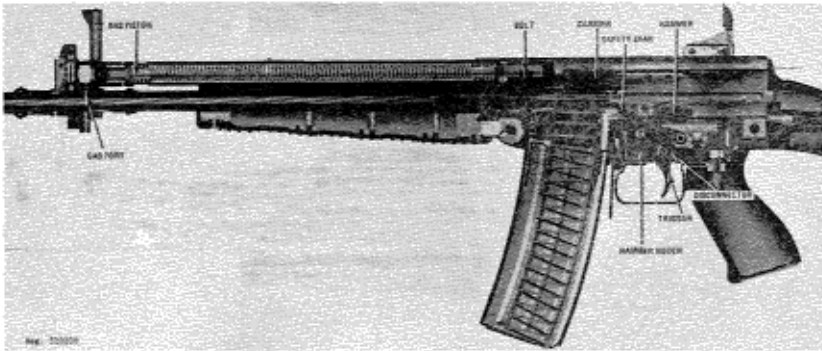

Figure 101. Beretta M70/.223 section.
a. The Beretta M70/.223 is gas operated. When the rifle is loaded and cocked, pressure on the trigger releases the hammer which, under pressure of its spring, swings forward, strikes the firing pin, and fires the chambered cartridge. As the bullet drives down the barrel, it passes the gas port and some propellant gases are diverted through the port into the gas cylinder. The gas piston (fig 101) is driven rearward, driving the bolt carrier rearward, and compressing the driving spring.
b. As the bolt carrier moves rearward, it causes the hammer to rock back, and the safety sear (fig 101) rises. As the bolt carrier continues rearward, the cam recess in the carrier (fig 101) acts on the operating lug of the bolt and rotates the bolt to its unlocked position. Once unlocked, the bolt and carrier move to the rear as a unit. The extractor pulls the fired cartridge case from the chamber and holds it to the bolt until the case strikes the ejector and is expelled through the ejection port. The bolt carrier finally strikes the rear of the receiver and stops. The driving spring then drives the bolt carrier forward, and the feed rib on the bolt
c. When the selector is set on I (semiautomatic), the hammer is held cocked by the nose of the trigger engaging a notch in the hammer; when the trigger is pressed, it disengages from the hammer, allowing it to swing forward. As the trigger rotates, the disconnecter (fig 101) rotates with it, and the disconnecter hook moves forward to where it can engage a second notch on the hammer (fig 101). When the bolt carrier counterrecoils, the disconnecter then catches the hammer and holds it cocked. When the trigger is released, the disconnecter rotates rearward with it and releases the hammer; the trigger, however, has moved enough so that the trigger nose reengages the hammer. Pressure on the trigger will now fire a second shot.
d. When the selector is set at A (automatic), a portion of the selector swings off the rear of the disconnecter (fig 101) so that when the trigger is pressed the disconnecter is blocked and does not move with the trigger as in paragraph c above. When the
bolt carrier counterrecoils, only the safety sear (fig 101) holds the hammer cocked, and as the bolt carrier completes its forward travel, it trips the safety sear which releases the hammer to fire another round. This action continues until the magazine is empty, or until the trigger is released and its nose engages the hammer.